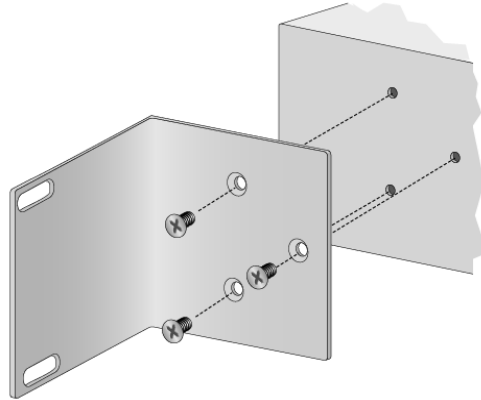

Figure 7 Attaching Rackmounting Brackets
1. Attach a bracket to one side of the switch using the bracketmounting screws that came with the switch. See Figure 7.